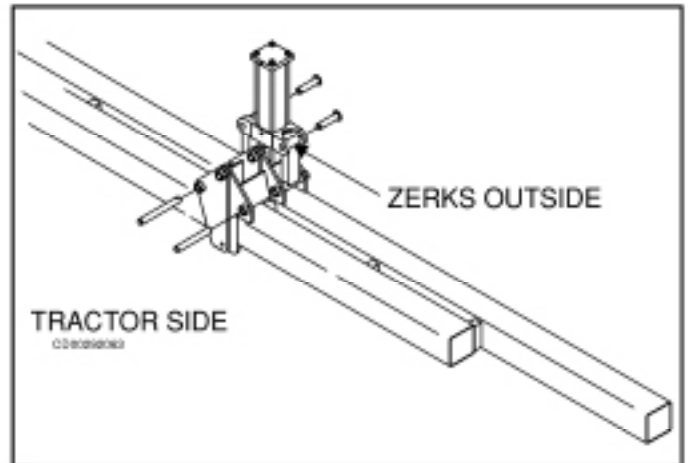

Figure 9 Mounting Cylinder Linkage Bars
8. Assemble the linkage bars to the cylinder casting, using welded head pins and snap ring pins as shown in Figure 9. The snap ring pins go through the pin on the tractor side of the cylinder.